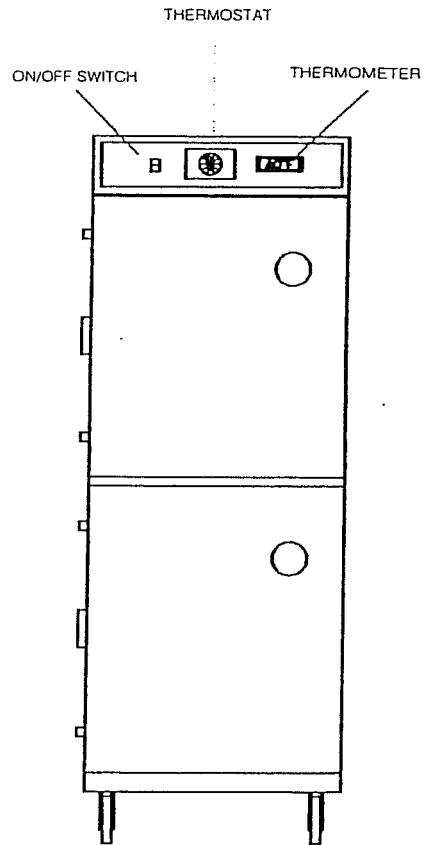

FIGURE 2
1. Turn switch to "Off." (See Figure 2)